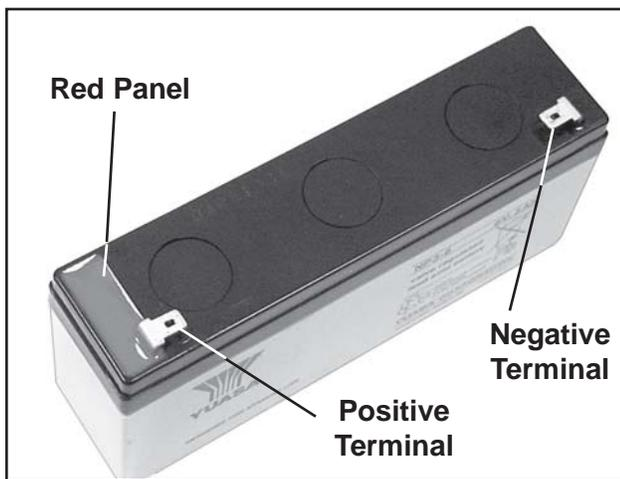

Figure 41. Battery Terminals
1. A red panel on one side of the top of the new battery identifies the positive terminal (Figure 41). With this red panel on your left, place the battery into the battery pocket on the rear cover.